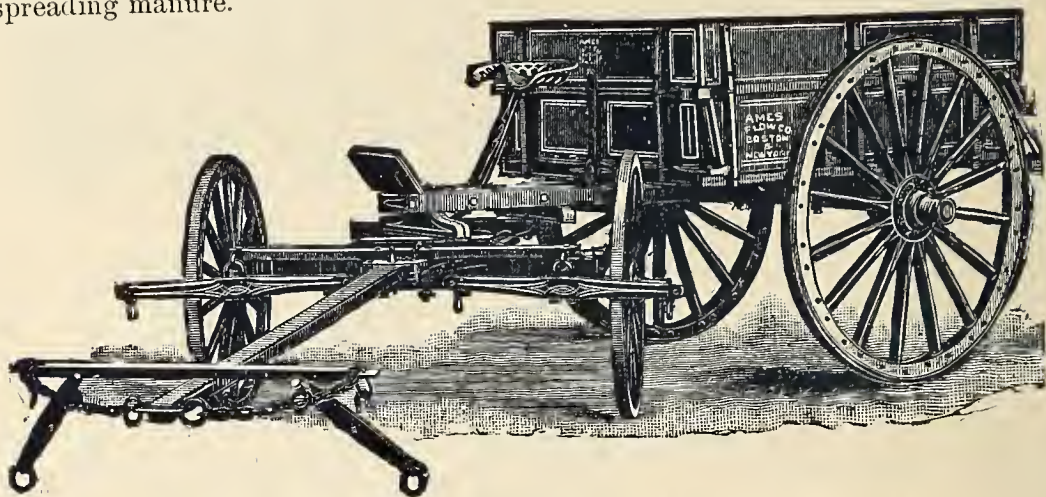
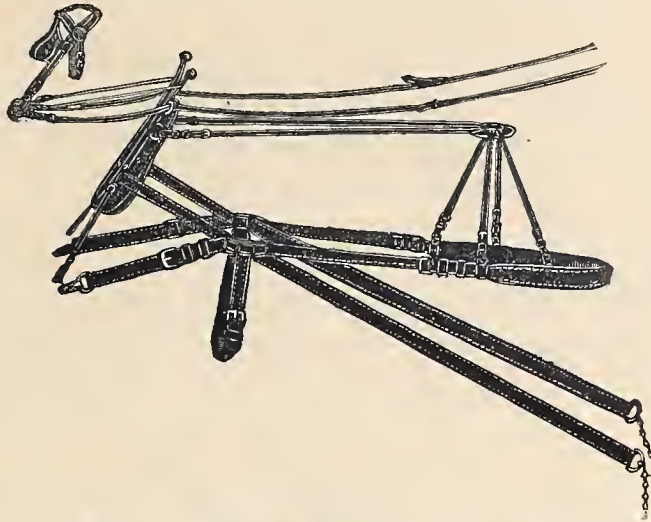

Fig. B 567.—Four-Wheel Town and Farm-Cart.
Fig. B 582.—Double Wagon or Cart Harness.
**The Four-Wheel Town and Farm Cart.**—*Fig. B 567* shows this cart, which is larger and heavier than the FARM-CART, and specially adapted for town and farm work, with a team of two horses. The SHIFTING FRONT AND SIDE-BOARDS, shown in illustration, increase the capacity considerably. The HAY RIGGING can be used if desired. This is a dump-cart, and has an adjustable lock, so that the body can be tipped at any angle, and held there, in discharging load. This is especially desirable in spreading manure.
*The Double Wagon or Cart Harness.*—*Fig. B 582* shows these harness as usually furnished for our wagons and carts. We have several grades suitable for different work, and small and large horses. We can also furnish these harness of lighter grade for mules and small horses, and when desired jack pads are furnished for the back. These harness are adapted for use with spreader and short neck-yokes, as shown at *Fig. B 567* (TOWN AND FARM CART), but we can furnish for single neck-yoke, or for pole-chains when desired.
*The Neck-Yoke*, shown at *Fig. B 491*, is made in three styles. The one illustrated is the medium style, for use over end of pole. We also have a LONG NECK YOKE for use over end of pole. The SHORT NECK YOKE is for use where there are two required in connection with a spreader and chains, similar to illustration *Fig. B 567*.